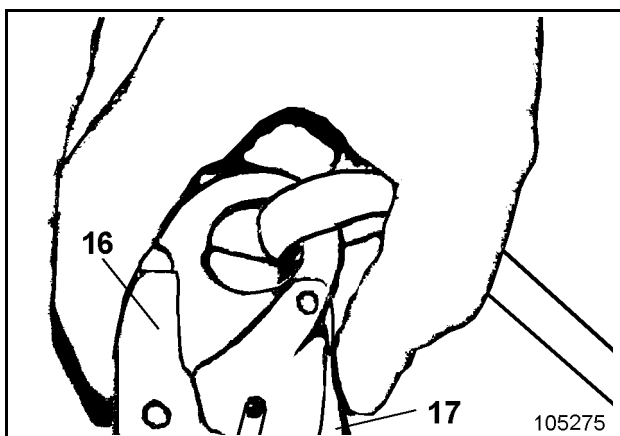

Fig. 2-43:
- Release hooking safety device (17, Fig. 2-43:).